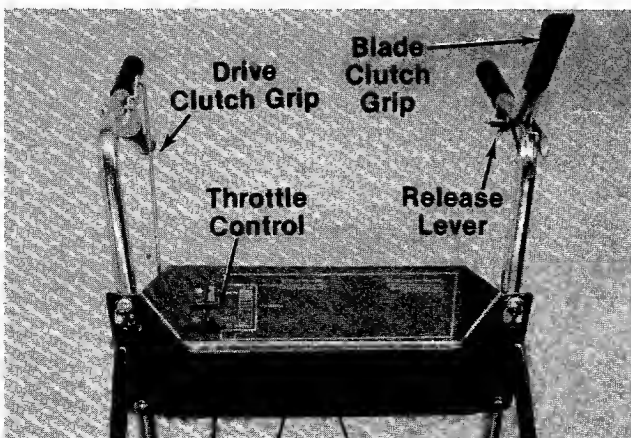

FIGURE 18.
The throttle control is located on the right hand side of handle panel. It controls engine speed. See figure 18:
The drive clutch grip is located on the right handle of the mower. Squeezing the clutch grip engages the drive pinions into the wheels. Release the clutch handle and the forward motion of the mower stops. You must release the clutch handle to make a turn. See figure 18.
The blade clutch grip is located on the left handle. Push the release lever to free the blade clutch grip, then squeeze the clutch grip against the handle to engage the blade. Release the grip to stop the blade from turning. See figure 18.
1. Be certain both clutch grips are in the dis-engaged position (released). See figure 18.
2. Move the throttle control to the "CHOKE" position. See figure 18.